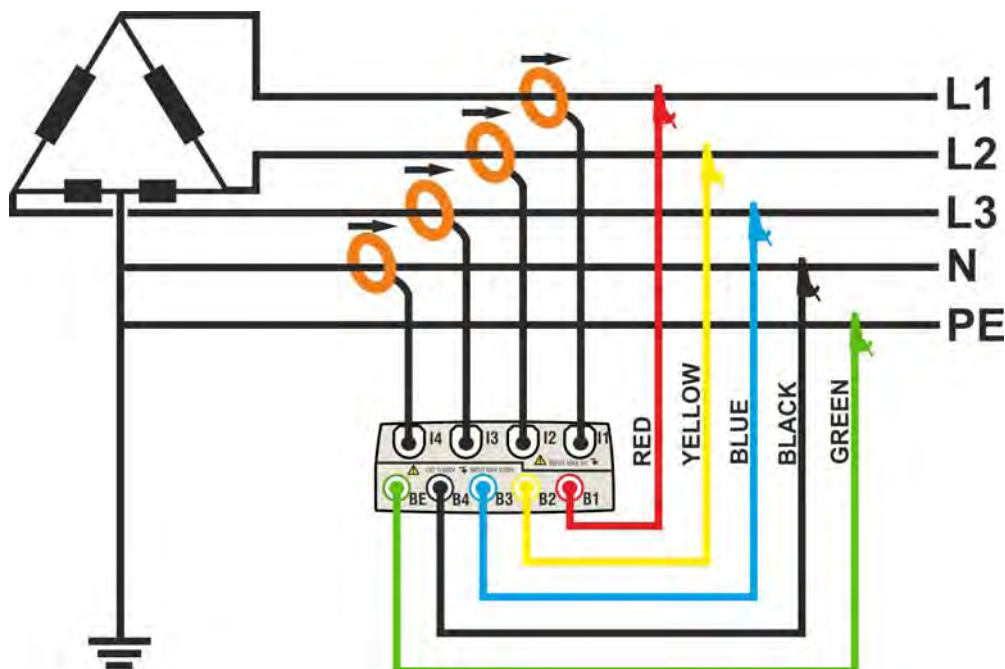

Fig. 139: Meter connection in a three phase 3PHL system – ENG\_UK type
2. Connect voltage test leads on Phases L1, L2, L3, N and PE cables considering the colours as shown in Fig. 139. **Verify the result “123” at display relative to a correct phase sequence indication** (see § 5.2.1) and perform the corrections if necessary.
3. Connect the transducer current clamps on Phase L1, L2, L3 and N cables as shown in Fig. 139 respecting the clamp's arrow direction indicating the current standard sequence from generator to load. **On Real Time Values' section screens (selecting a 3 wire system preliminarily) always verify the positive value of Active Power and the power factor relative to load which should be normally inductive** before starting a recording. Reverse the clamp by 180 degrees on cables in case of negative readings.